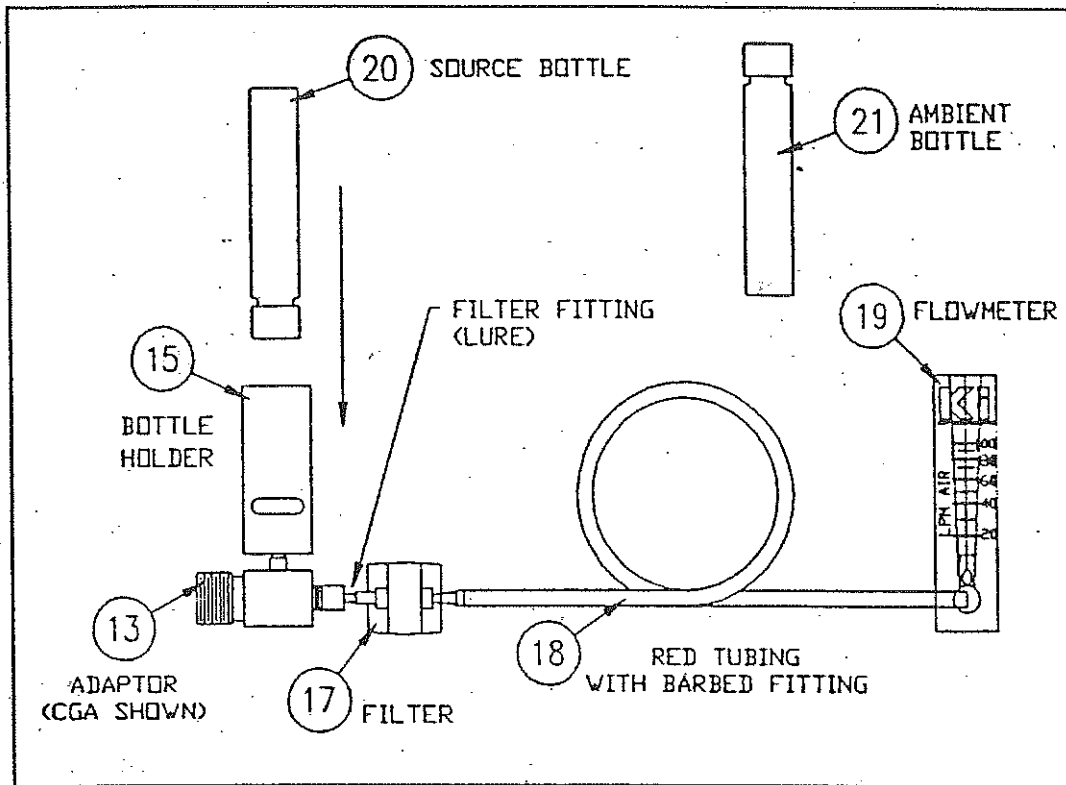

FIGURE 14-8 SOURCE BOTTLE APPLICATION
7. Insert the numbered source bottle (20) (blue capped) into the bottle holder (15) by gently pushing the bottle straight down (Figure 14-8).